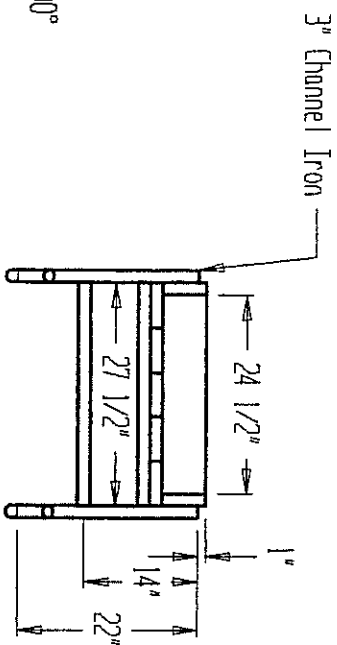

Fig. 3
6. Cut 2 - 14" x 2" x 2" x 1/8" angle iron and 2 - 11" x 2" x 2" x 1/8" angle iron to form arm rest. Place 45 deg. angle on ends, to create right and left sides. (fig. 3.)